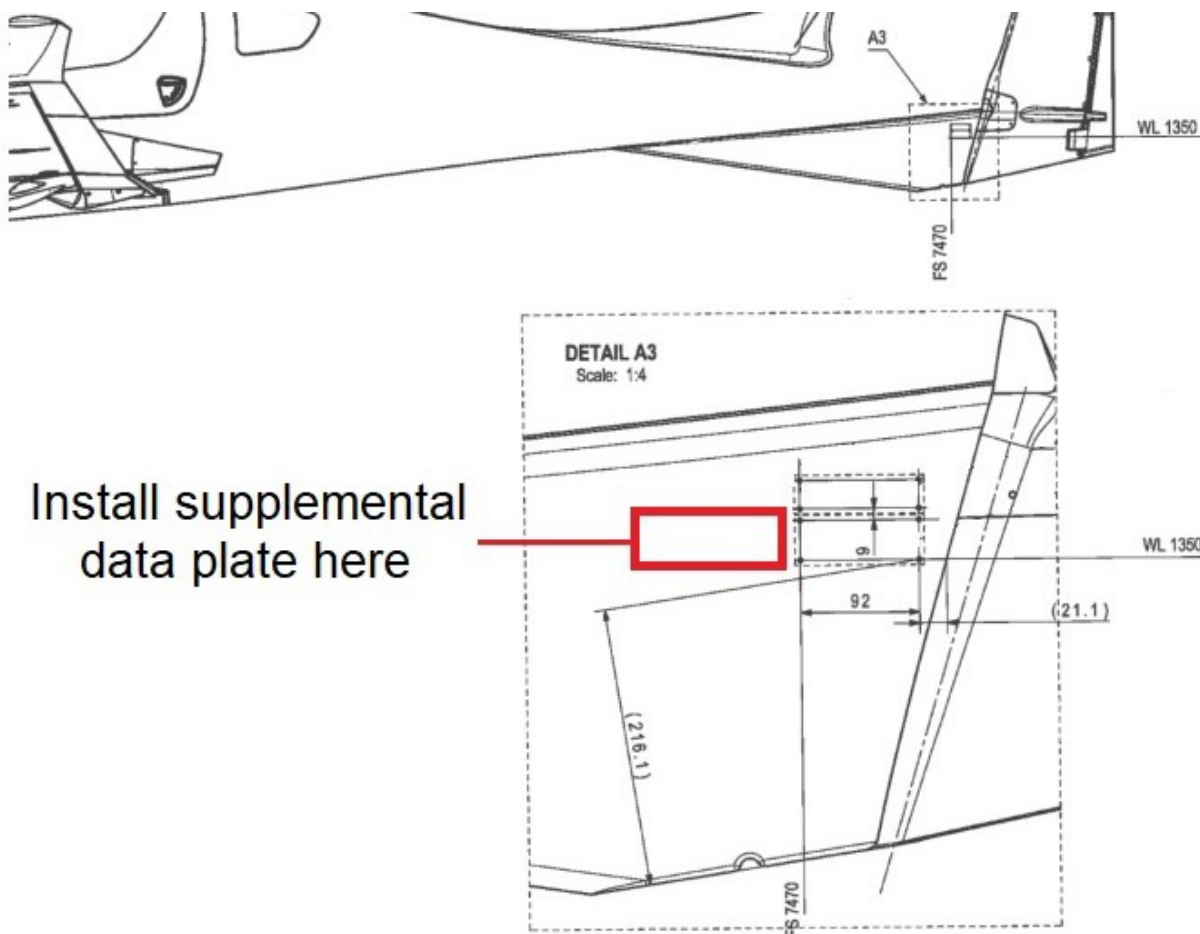

Figure 1. Location of supplemental data plate.
1. Install the new data plate (item 1 or item 2) adjacent to the data plate currently on the aircraft as shown in Figure 1. Use blind rivets ISO 15983-3.2x10-A2 (item 3).
- A. Install item 1 on aircraft produced by Diamond Aircraft Industries GmbH.
- B. Install item 2 on aircraft produced by Diamond Aircraft Industries Inc.